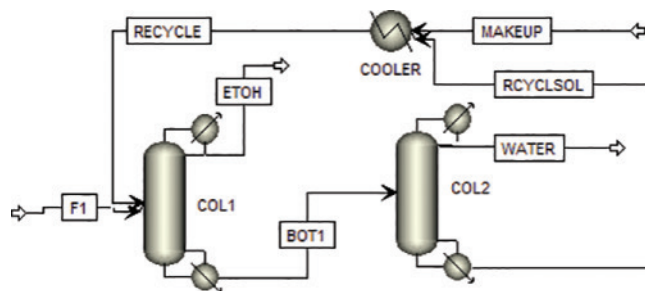

FIGURE 8-A4. Two-column distillation system for extractive distillation
- 2.** In Simulation mode, draw the two-column system as shown in Figure 8-A4, but do not connect the RCYCLSOL stream to the COOLER (leave it as a product initially). Both columns should be drawn with liquid distillate products. The flowsheet will be similar to Figure 8-A4, except the RCYCLSOL STREAM is temporarily a product.